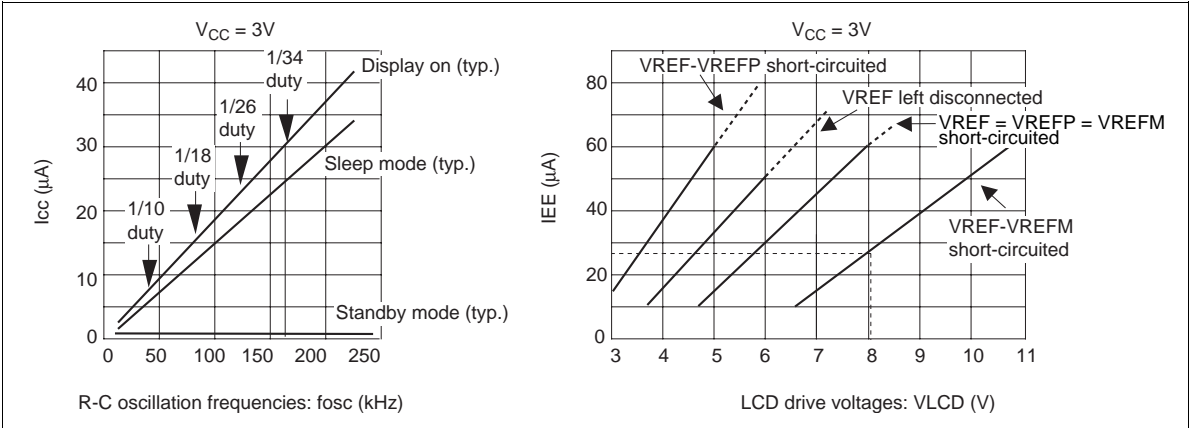

Figure 52 Relationship between the Operation Frequency and Current Consumption
- 11. The following shows the relationship between the operation frequency ( $f_{OSC}$ ) and current consumption ( $I_{CC}$ ) (Figure 52).